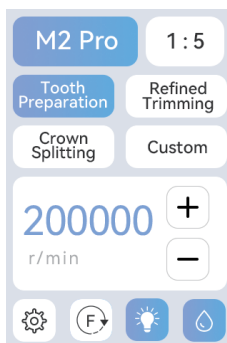

Figure 8
5.2 After the drive module is powered on, the display lights up and enters the main control interface (as shown in Figure 8).